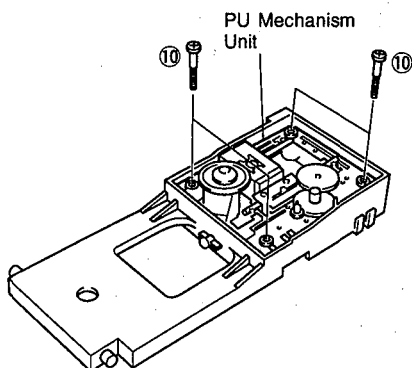

Fig. 5
- b. Pull out 4 Pins ( ⑩ ) and then remove the PU Mechanism Unit as shown in Fig. 5.